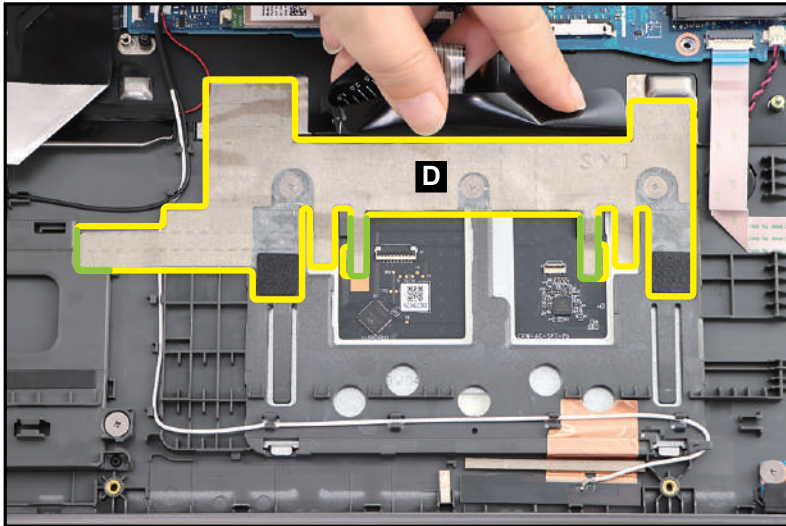

Figure 3-124. Replacing the Touchpad Module
4. Attach the conductive tape (D) onto the touchpad module and top assembly. Make sure the conductive tape is properly aligned and placed onto its slot highlighted by the yellow and green lines as shown in Figure 3-124.